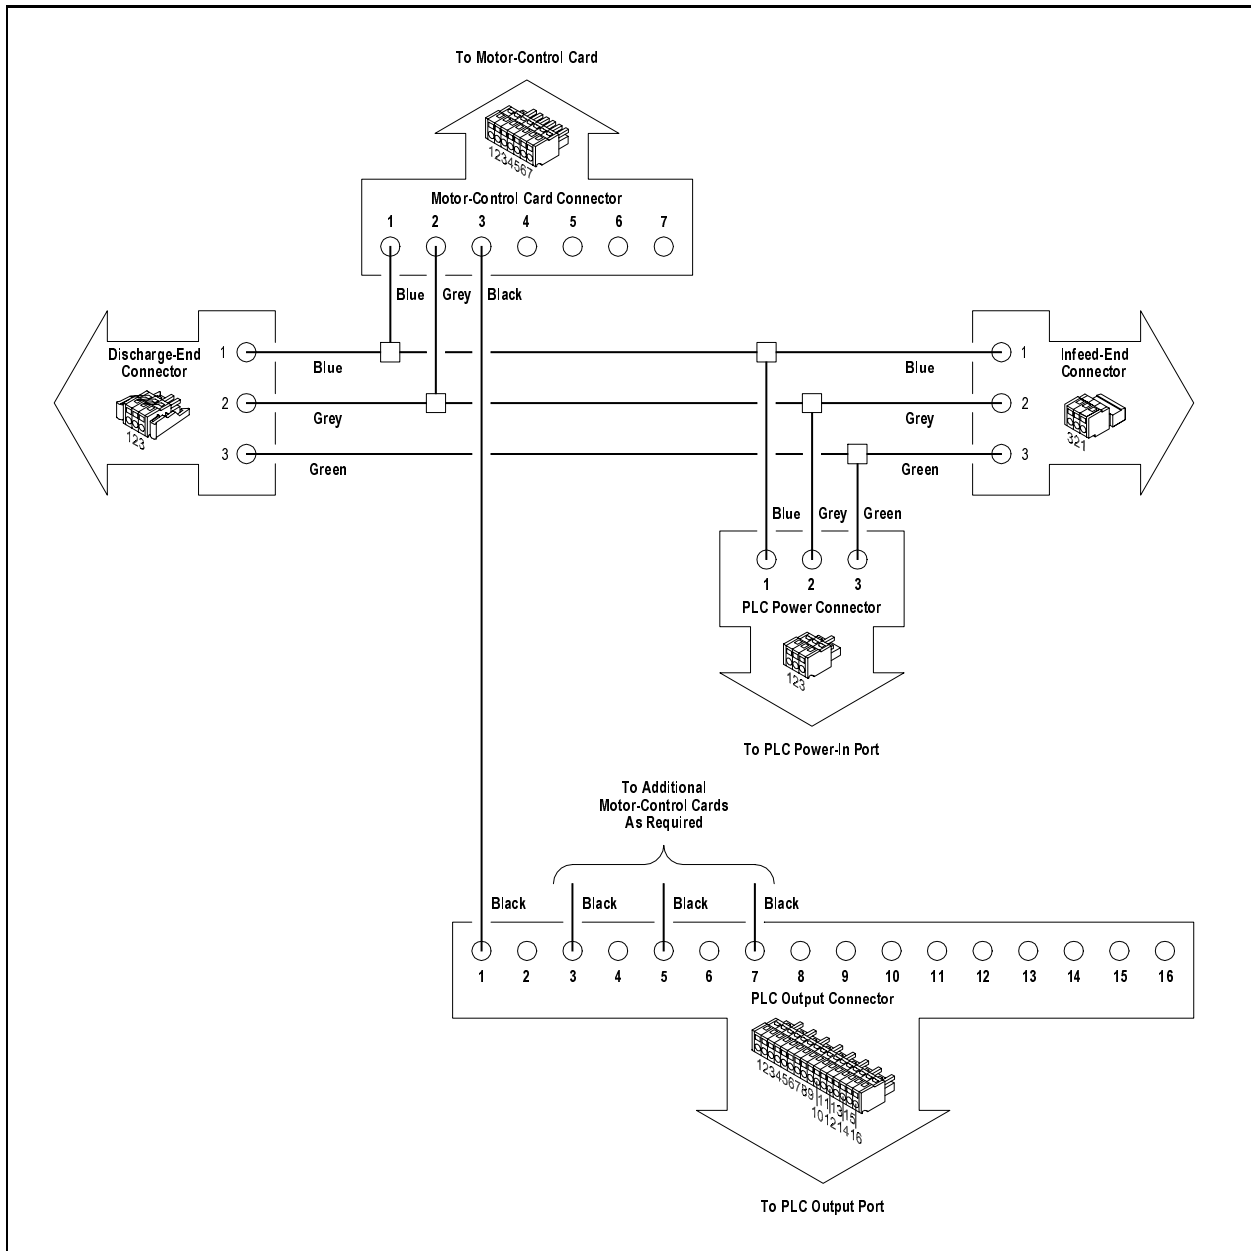

Figure H.6 – Wiring Connectors on a Power Harness
- Power Harness (see Figure H.6),